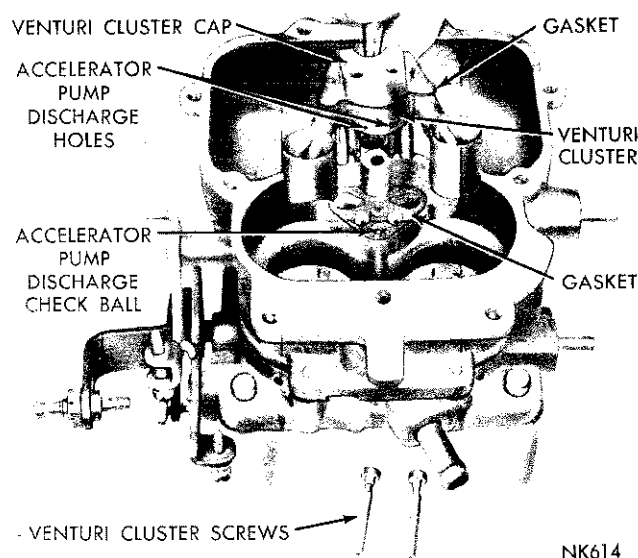

Fig. 4—Removing or Installing the Venturi Cluster
(13) Remove the venturi cluster screws, then lift the venturi cluster and gaskets up and away from the main body, as shown in (Fig. 4). Discard the gaskets. **Do not remove the idle orifice tubes or the main vent tubes from the cluster.** They can be cleaned in a solvent and dried with compressed air.
(14) Invert the carburetor and drop out the accelerator pump discharge check ball and the intake check ball. (The intake check ball is the largest.)
(15) Remove the idle mixture adjusting screws and springs from the throttle body.
(16) Remove the screws that attach the throttle body to the main body. Separate the bodies and discard the gasket.